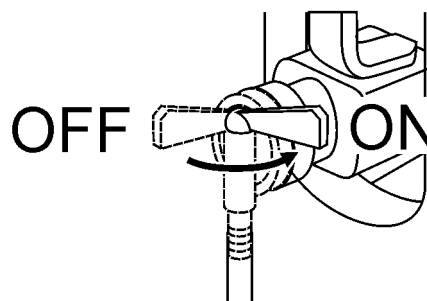

Figure 32. On-board Water Tank ON/OFF Valve
3. Turn water source on (Figure 32).